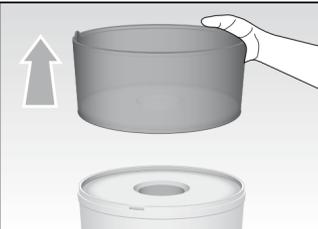

Fig. 4
- Remove the lid (H) (Fig. 2) and take out the top tank (G) (Fig. 3) and filtered water tank (F) (Fig. 4). Wash them in lukewarm, soapy water; rinse and dry thoroughly.
- Refit the filtered water tank (F).